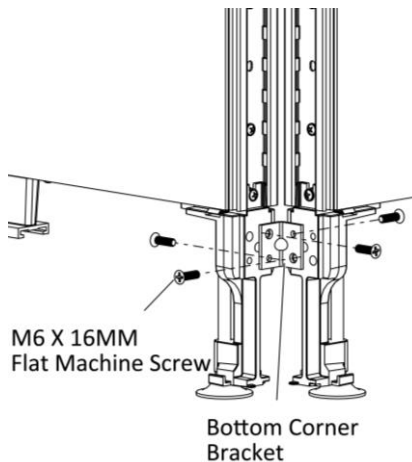

Figure 3
6. Securely fasten the bottom corner bracket to the panel legs with four M6 X 16MM Flat Machine Screws, (Figure 3).